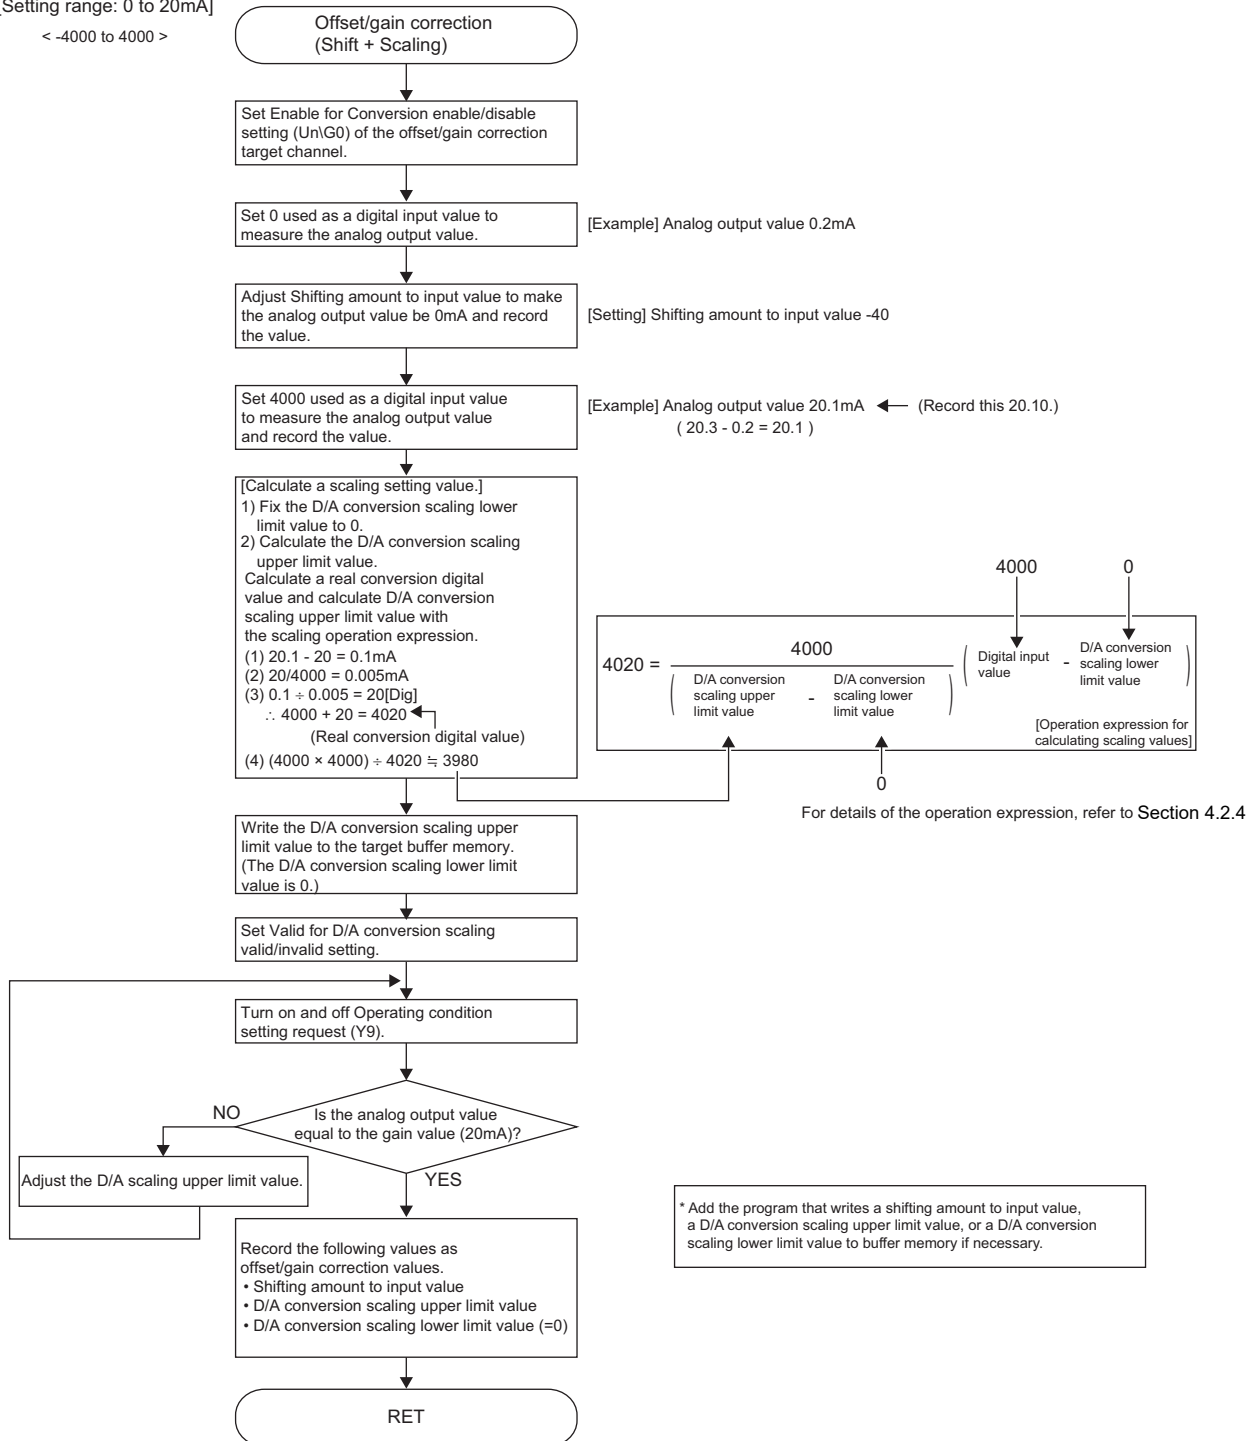

Figure 7.15 Offset/gain correction example (D/A conversion)
- (1) When offset/gain are corrected using the scaling function and shift function, resolution may be reduced. In the example of Figure 7.15, the resolution is reduced at 0.5%.
- (2) When offset/gain are corrected using the scaling function and shift function, the functions cannot be used for other applications.
- (3) When a module is replaced online, corrected offset/gain data are not taken over to a new module. Correct the offset/gain following the procedures in Figure 7.15 after online change.